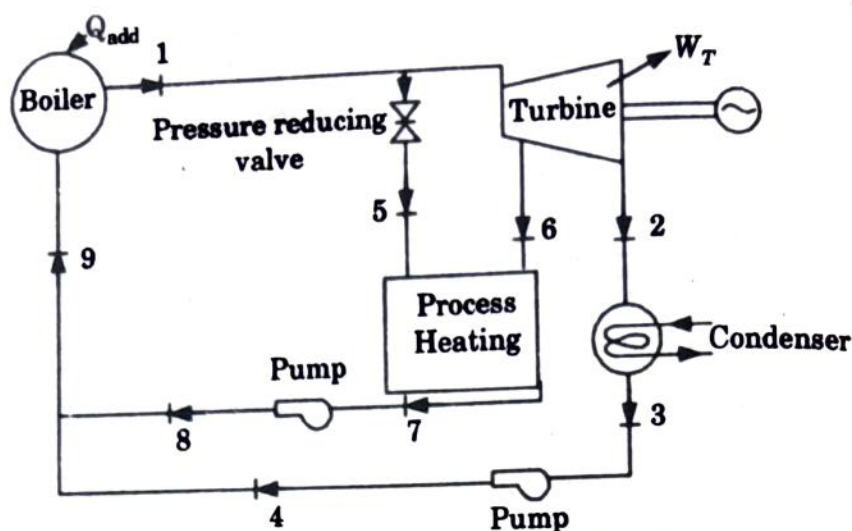

Fig. 2.17.1. Schematic for cogeneration.
3. A schematic arrangement of cogeneration is shown in Fig. 2.17.1.